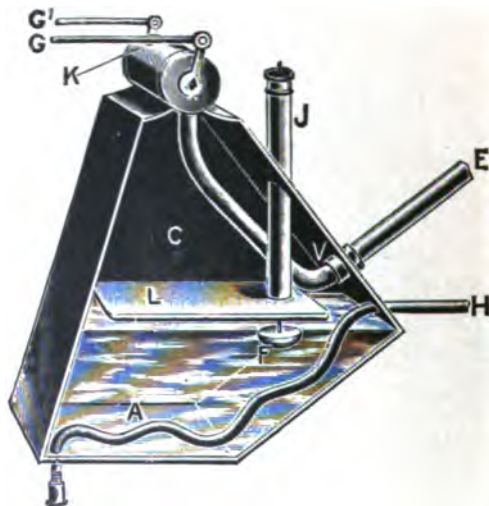

Fig. 7.—The De Dion Carburetter
(1) *The Surface Carburetter*, as used on the De Dion Motor Cycle.—This carburetter is so designed as to give a considerable surface of spirit, off which the vapour rises, and together with a certain quantity of air is sucked into the mixing chamber, which is commonly known as the twin tap. In this mixing chamber the proper proportions of air and gas are finally regulated so as to give a perfect mixture. Fig. 7 explains the construction of the carburetter.
A is the upper part of the carburetter, corresponding to c in fig. 7. B is the aperture through which the crude vapour ascends into the twin tap, passing through the wire gauze *C en route*. D is an aperture on top of the twin tap, through which the ordinary air enters. By the suction of the engine this crude vapour and air are drawn into κ' , and, mixing as they go, enter κ , and so into the pipe E, and thence are drawn into the combustion chamber of the engine. As already mentioned, the lever G' operates the cylinder κ' , through which circular holes are cut, to admit the crude vapour and air. When the lever is in a certain position nothing but crude vapour is admitted to κ' . By operating it, however, the air inlet D is gradually opened, and at the same time the vapour inlet B is gradually shut, thus regulating the quality of the mixture, or in other words the relative proportions of air and crude vapour. Similarly the lever G , operating the cylinder κ , either opens or closes the aperture F, thus regulating the quantity of mixture which passes from the mixing chamber to the combustion chamber.